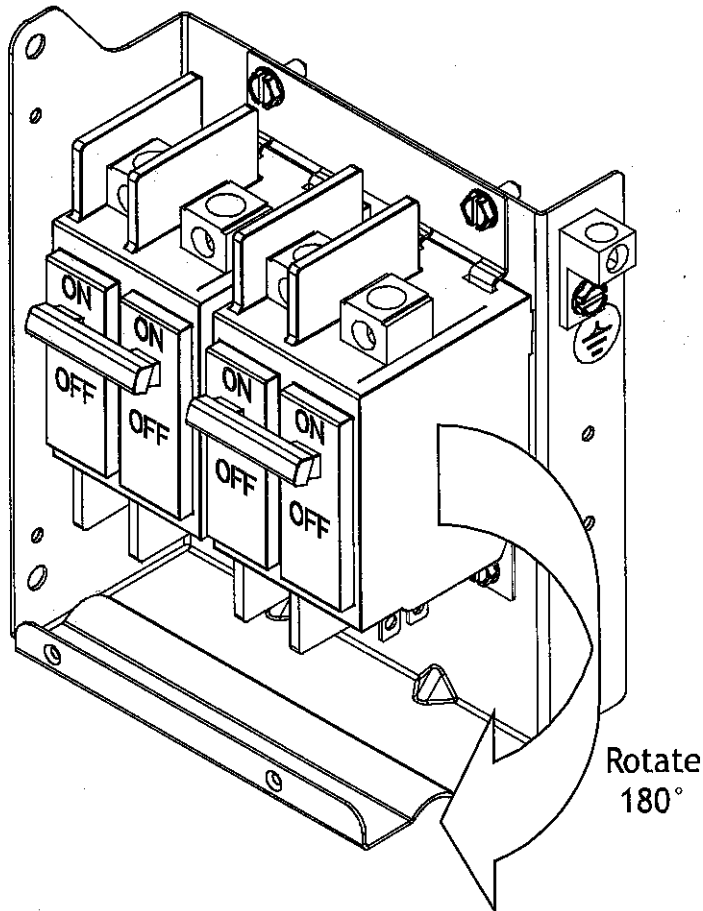

FIGURE 2
5. For downflow applications with electric heat kits that have circuit breakers, the circuit breakers must be rotated 180 degrees (such that the ON position will be with the circuit breaker handles up). To do so, remove and retain the 2 screws securing the circuit breaker clamps, rotate the circuit breakers and clamps 180 degrees, then use the same 2 screws to re-secure the circuit breakers. See Figure 2.